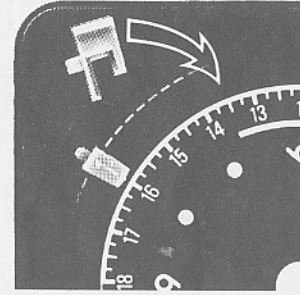

Fig 3
- Fig 3. illustrates tappets being inserted into outer dial – short leg of tappet faces middle of clock.